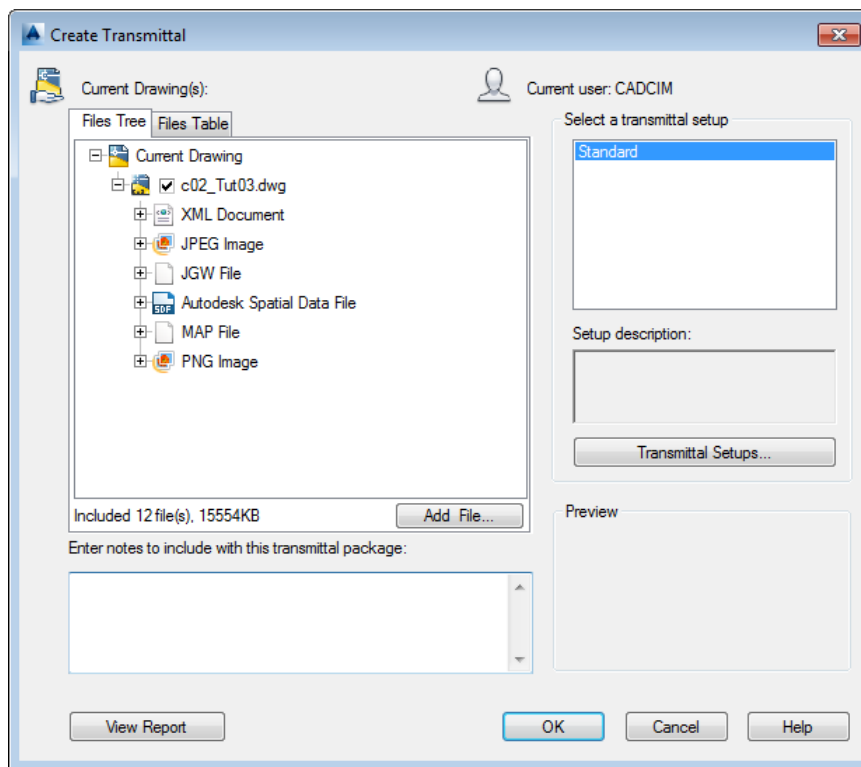

Figure 2-30 The **Create Transmittal** dialog box with files available for transmittal
2. Choose the **Yes** button in this message box; the **Create Transmittal** dialog box is displayed, as shown in Figure 2-30.